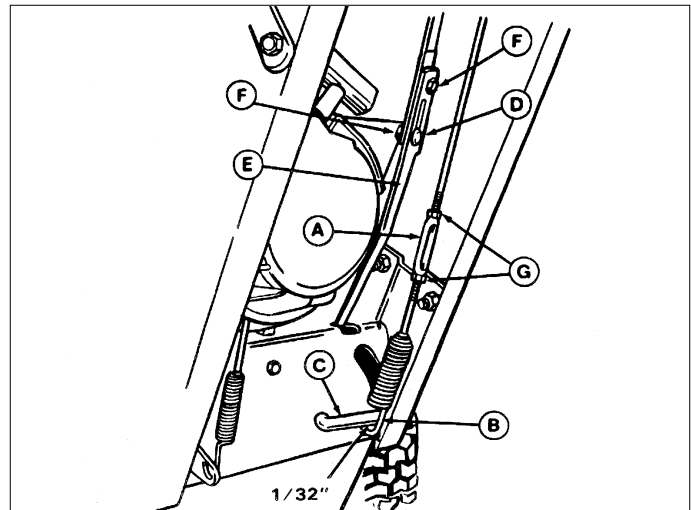

Figure 19. Speed Selector and Auger Drive Linkages
1. Loosen the two nuts (F, figure 19).
2. Place the shift lever in 5th gear. The lower speed selector rod (E, Figure 19) will properly locate itself due to an internal spring.
3. Tighten the two nuts. Do not lift up or down on rods while tightening. Make sure the shoulders of the carriage bolts (D, Figure 19) are in the slots.
1. With the drive lever released, the hook (B, Figure 19) should barely touch the lever (C, Figure 19) without raising it. There can be a maximum 1/32" clearance as shown.
2. To adjust, loosen the two nuts (G, Figure 19) and hold the lower rod to keep from rotating. Turn the turnbuckle toward the right to lower the spring, or toward the left to raise the spring.